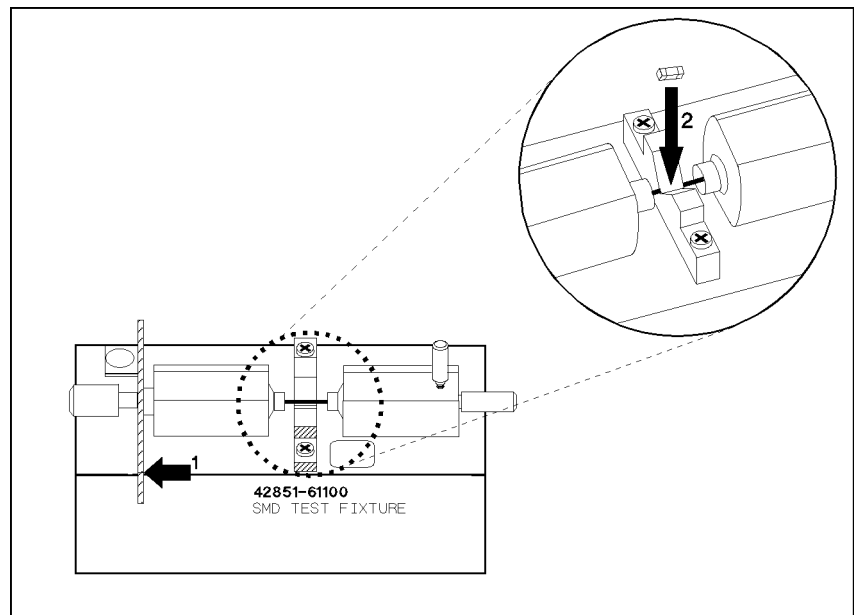

Figure 3-29. Connecting DUT to the SMD Test Fixture
7. Connect the DUT to the SMD Test Fixture as shown in Figure 3-29.